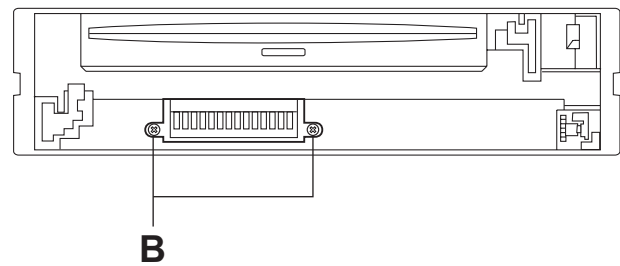

Fig.3
- (1) Remove the screw **A** on the both sides of the main body.
- (2) Remove the two screws **B** on the front side of the main body.
- (3) Release the two joints **a** and two joints **b** on both sides of the main body using a screwdriver, and remove the front chassis assembly forward.
- (4) Release the two joints **c** on the bottom side of the main body and remove the front chassis assembly in the direction of the arrow.(see Fig.3)
2.2.2 Removing the connector board (See Figs.3 to 5)